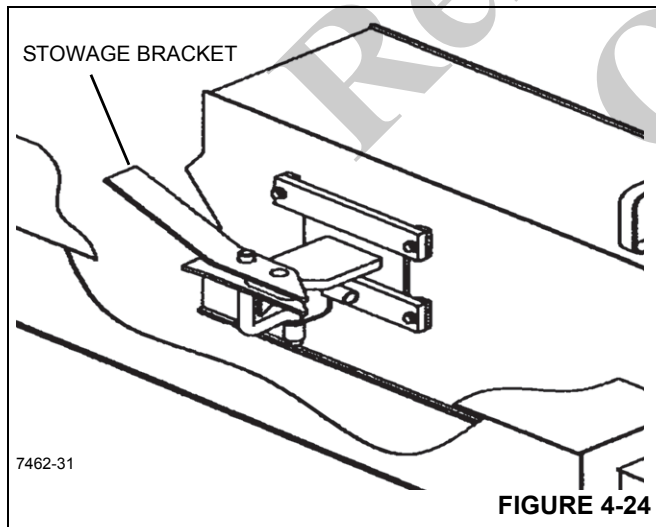

FIGURE 4-24
It is extremely important for the safety of the crane operator and all others working near the crane that the jib boom extension be properly secured to the jib stowage bracket (Figure 4-24) and to the boom nose of the main boom.
5. With jib pinned to the sheave head, swing the jib parallel to the boom and secure to the jib stowage bracket Figure 4-24.